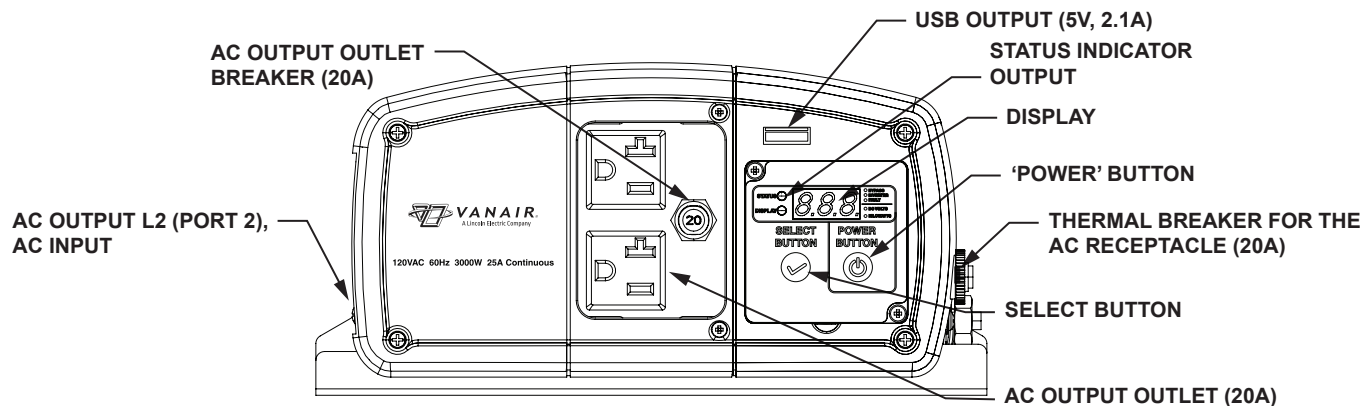

Figure 1-1: AC Output Front Panel
- Turn the unit ON by pressing and holding the 'Power' Button on the main unit for about a second until a beeping sound occurs. The 'status' indicator turns on green, indicating the inverter is ON. Check the digital display showing measured battery voltage and output power alternatively. Both AC and 5V USB are now available. (See “*Figure 1-1: AC Output Front Panel*”.)